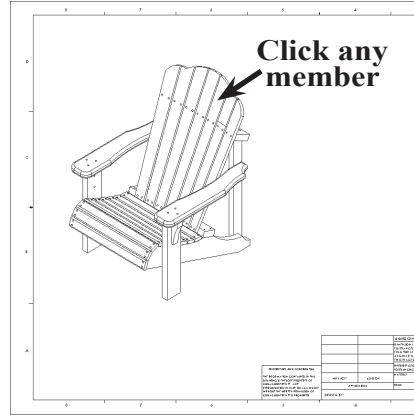

Fig. 4
Step 2. Click Chair in Isometric view on your drawing, **Fig. 4**.